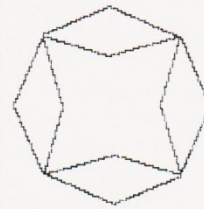

Fig. 22
- PROCC2 (2230-2370) fills in the four-pointed star which is formed by completing a rhombus on each pair of adjacent sides (Figure 22).